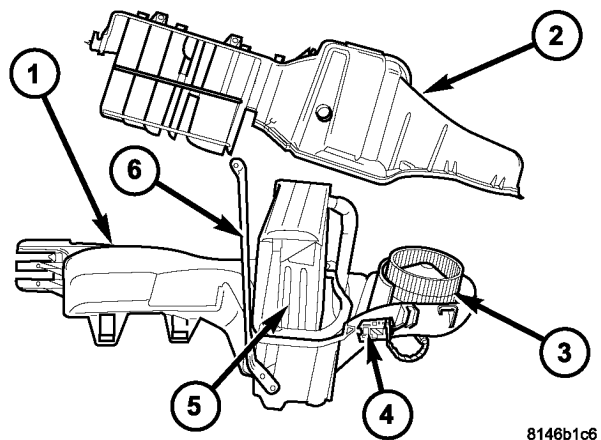

Fig. 27 HVAC Housing
(5) Disconnect the HVAC wiring harness from the blower motor resistor or power module (depending on application) (Fig. 27).
(6) Disengage the HVAC wire harness from the routing clips on the HVAC housing and remove the wire harness from the housing.